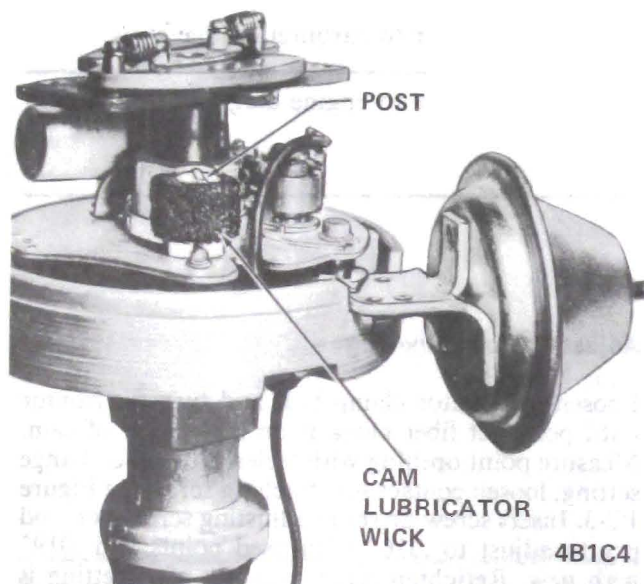

Figure 1C-4 Cam Lubricator Sponge
5. Wipe breaker plate clean and rotate lubricator sponge. See Figure 1C-4.